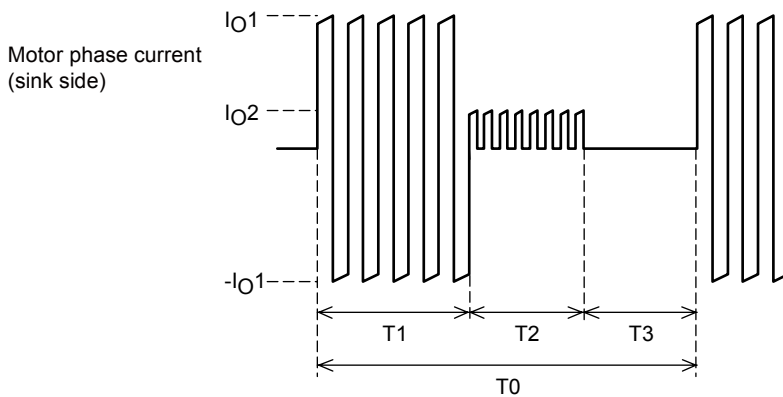
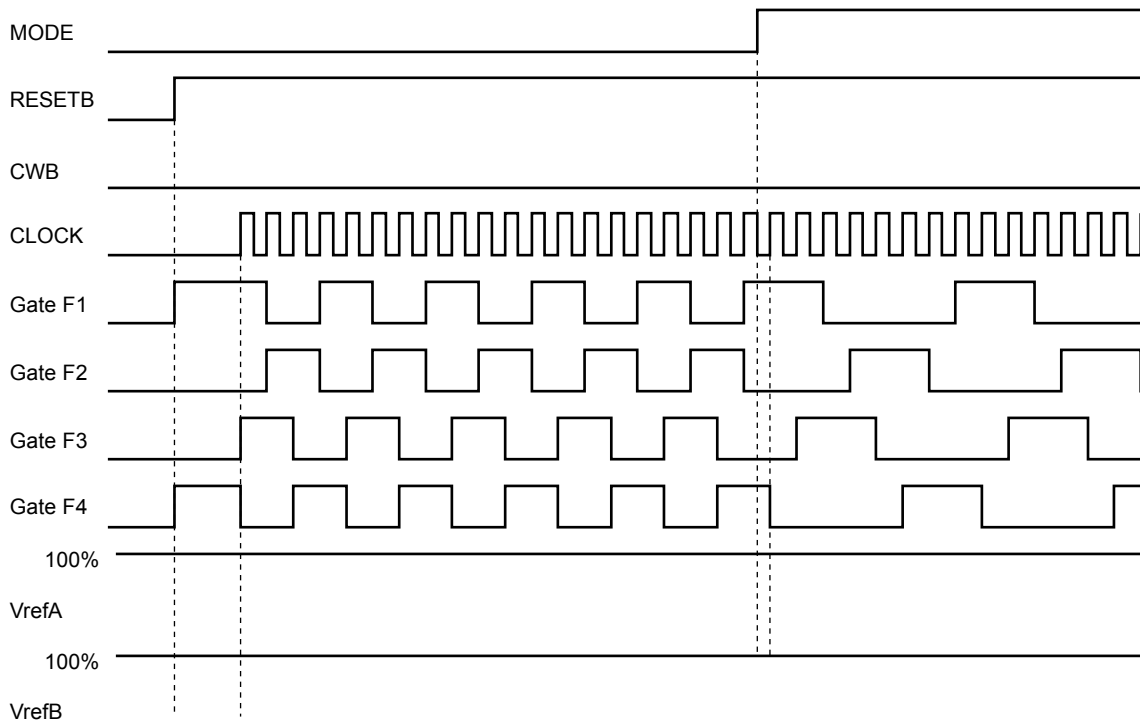

Figure 4 Motor Current Timing
Figure 5 Hybrid IC internal average power dissipation, P_D - Motor current, I_{OH}
As shown in figure 6, the value of ΔTc increases as the hybrid IC internal average power dissipation PD increases. As shown in figure 5, PD increases with the motor current. Here we describe the actual PD calculation using the example shown in the motor current timing chart in figure 4.
Since there are periods when current flows and periods when the current is off during actual motor operation, PD cannot be determined from the data presented in figure 5. Therefore, we calculate PD assuming that actual motor operation consists of repetitions of the operation shown in figure 4.
Note that figure 4 presents the concepts here, and that the on/off duty of the actual signals will differ.
While the operating range when a heat sink is not used can be determined from formula (I) above, figure 5 is merely a single example of one operating mode for a single motor.
For example, while figure 5 shows a 2-phase excitation motor, if 1-2 phase excitation is used with a 500Hz clock frequency, the drive will be turned off for 25% of the time and the dissipation PD will be reduced to 75% of that in figure 5.